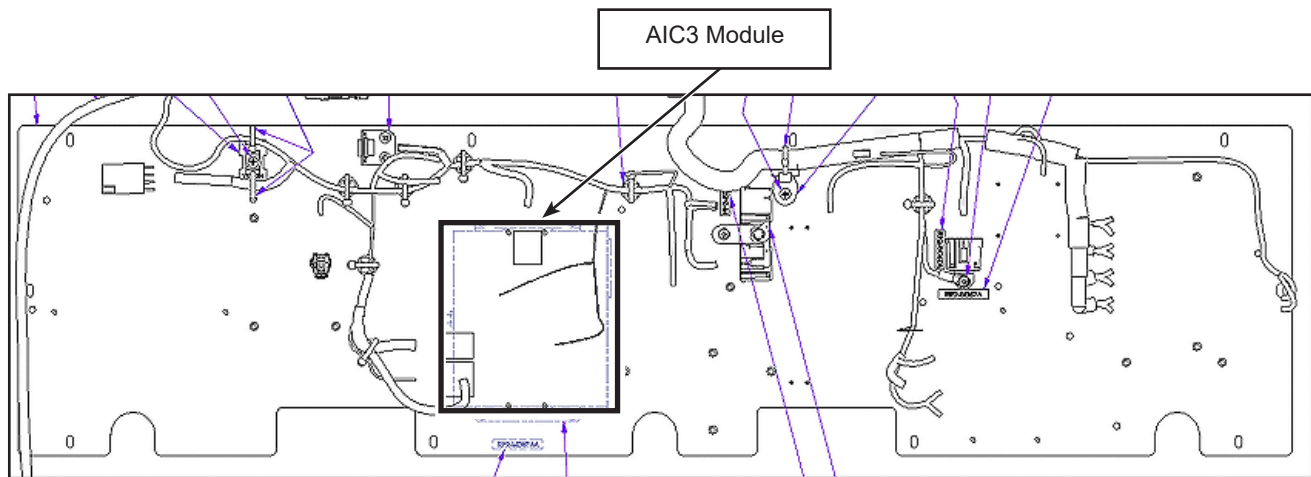

Figure 4 - AIC3 Module Located on the Right Panel Section
- 1.6. Locate the AIC3 module (see figure 4).